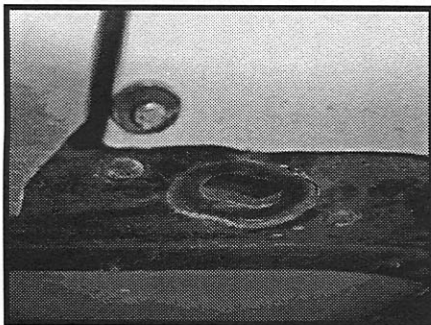

Figure 2
2. Using floor jack or lift, raise passenger front side of vehicle. Use extreme caution, only jack using factory recommendations and using factory jack points (see Fig. 2). If you have any questions, please consult your owners manual for correct jacking procedure. **MAKE SURE VEHICLE IS PROPERLY SECURED WITH JACK STANDS BEFORE PROCEEDING ANY FURTHER.**